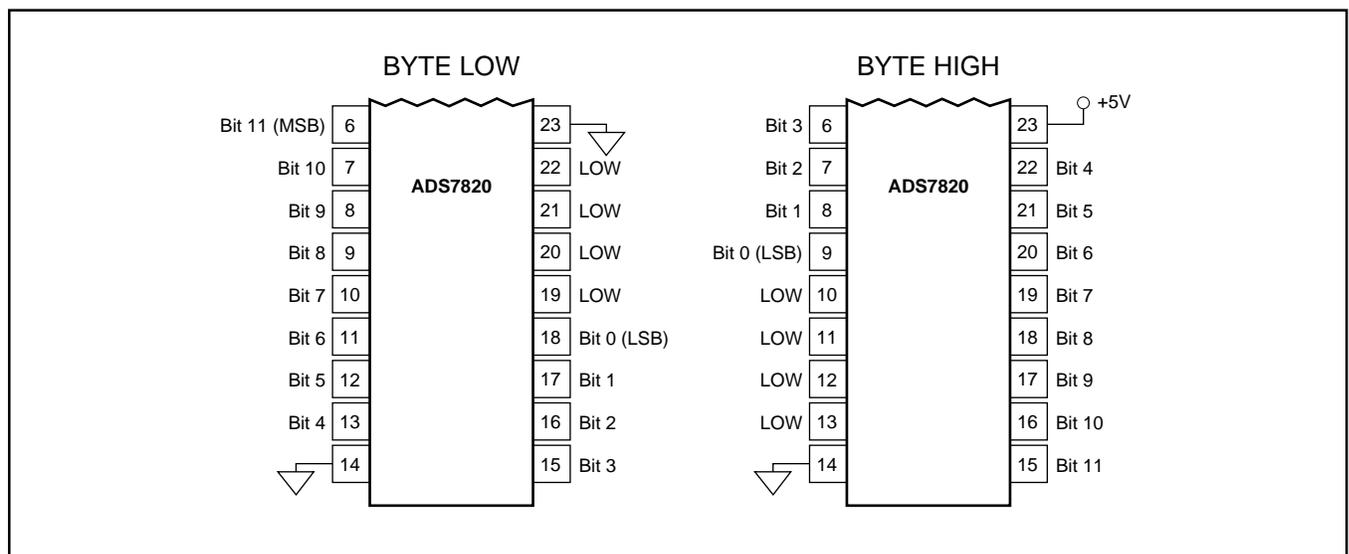

FIGURE 2. Bit Locations Relative to State of BYTE (pin 23).
NOTE: (1) See Figures 2 and 3 for constraints on data valid from conversion "n-1".
The ADS7820 outputs full or byte-reading parallel data in Straight Binary data output format. The parallel output will be active when R/\overline{C} (pin 24) is HIGH and \overline{CS} (pin 25) is LOW. Any other combination of \overline{CS} and R/\overline{C} will tri-state the parallel output. Valid conversion data can be read in a full parallel, 12-bit word or two 8-bit bytes on pins 6-13 and pins 15-22. BYTE (pin 23) can be toggled to read both bytes within one conversion cycle. Refer to Table II for ideal output codes and Figure 2 for bit locations relative to the state of BYTE.